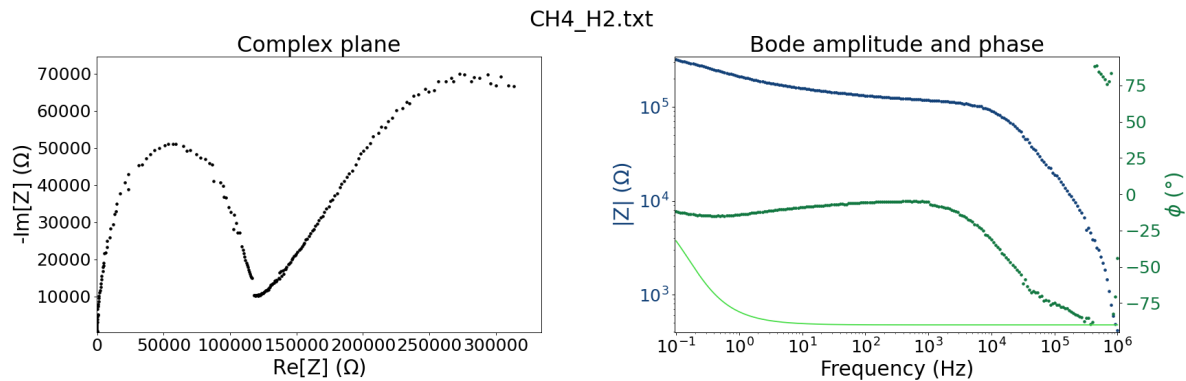

Figure 40: Spectrum loaded from $(f, |Z|, \phi)$ data.
- Go to **File>Load data...** to open the file from step 1 in DEC*i*M. The data should now appear in the main DEC*i*M window (Figure 40).